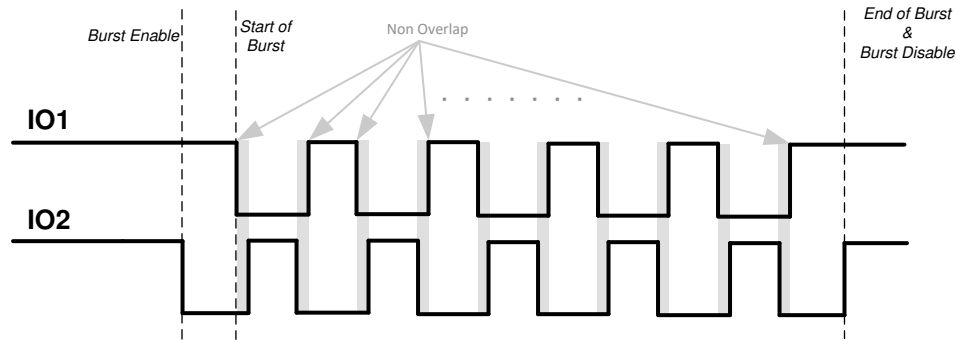

图 7-3. IO_MODE 2 Description
- IO_MODE = 2:** In this mode both IO1 and IO2 are used to control OUTA and OUTB. The burst enable is triggered when either IO1 or IO2 transitions from high to low. Start of burst (OUTA and OUTB changing state) happens only at the next falling edge of IO1. 图 7-3 shows the case where a high-to-low transition on IO2 is used to enable the burst. A burst is emulated when IO1 and IO2 are toggled in a non-overlapping sequence. After the start of burst, the state of OUTA and OUTB pins are determined by IO1 and IO2 pins. During a burst, if there is a condition where both IO1 and IO2 are high for more than half period of the internal clock f_{INT_CLK} (caused by differential delays due to PCB parasitics or MCU code), an end of burst and burst mode disable will be triggered. Any falling edge just after this condition will be ignored to toggle OUTA and OUTB as it would be considered as a new burst enable signal. A systematic condition of overlap can cause a continuous end of burst trigger such that OUTA and OUTB do not toggle even though IO1 and IO2 are toggling. TI recommends no overlap or minimum non-overlap between the IO1 and IO2 signals when measured at the pins. BURST_PULSE has no effect in this mode.